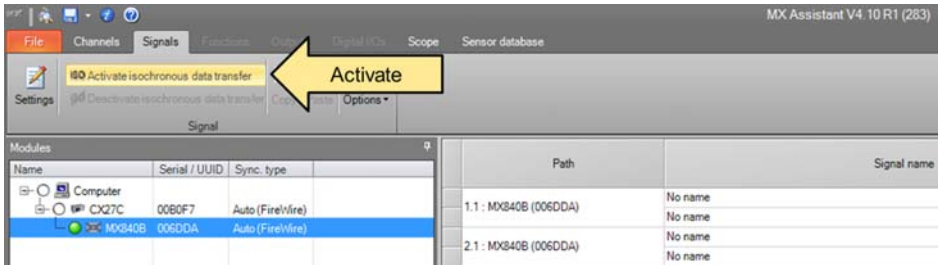

Fig. 5.3 Activation of isochronous data transmission
5. In the "Signals" tab, activate isochronous data transfer (see Fig. 5.3).